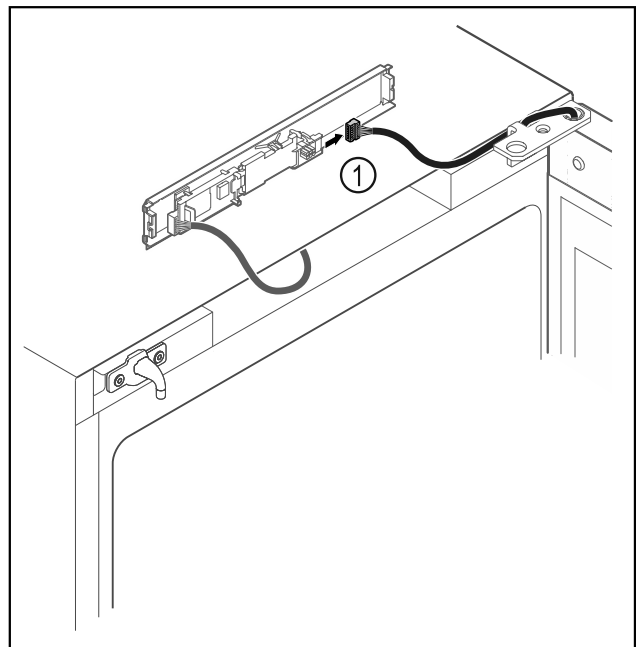

Fig. 18
- ▶ Disconnect the plug *Fig. 18 (1)* from the circuit board.